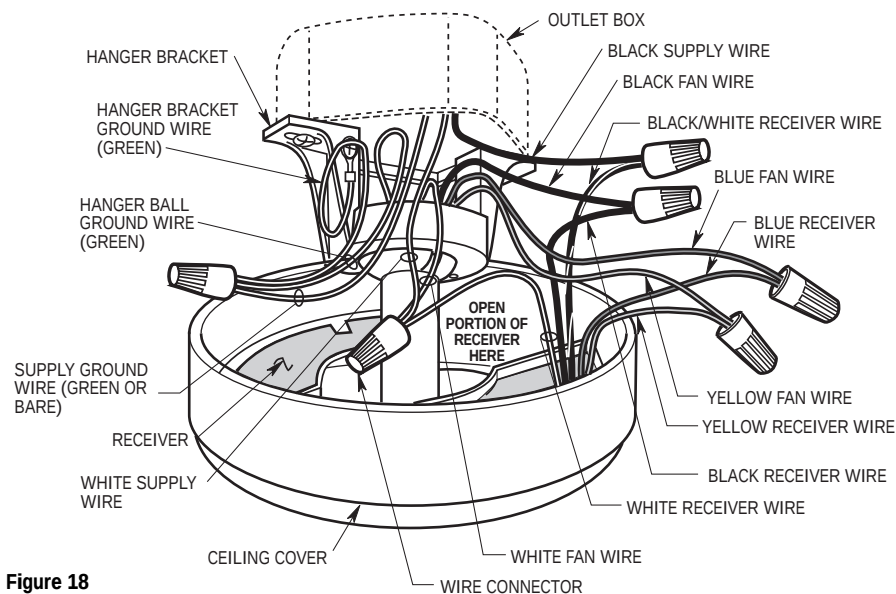

Figure 18
- 1. Pull the wire leads, coming from the end of the downrod, and the supply wires through the open side of the hanger bracket. (Figure 18).
- 2. Position the SW105 Receiver (supplied) in the ceiling cover so that the flat side of the receiver faces up and the open portion of the receiver is to the right, as shown in Figure 18.
- 3. Using wire connectors (supplied), make wiring connections as follows (Figure 18 and 19):